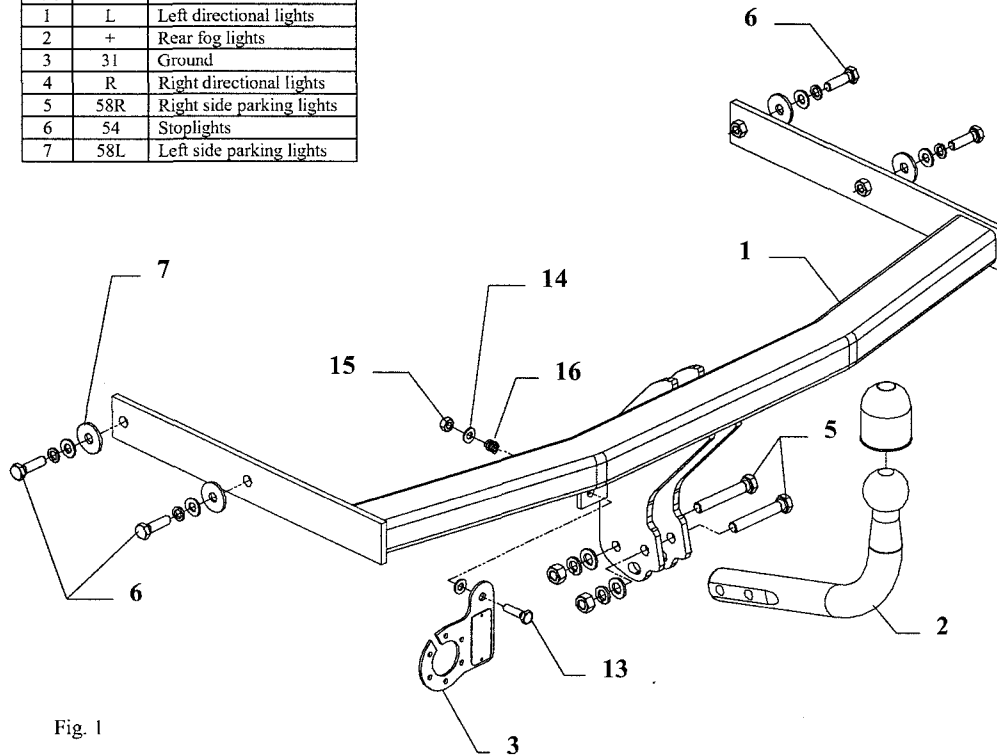

Fig. 1
3. Slide the main bar of the hitch (pos. 1) into the chassis and then fix with M10x35mm (pos. 6) bolts with washers (pos. 7) from the towbar accessories.
4. Position the ball of towbar (pos. 2) and fix with M12x75mm (pos. 5) screws from the towbar accessories.
5. Fix socket plate (pos. 3) according to fig. 1.